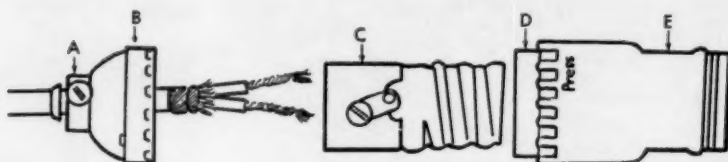

Figure 6. Connecting a cord to a lamp socket
1. Examine the lamp carefully to see how the cord is placed in the lamp. Refer to figure 6 to recognize the parts of a lamp socket. It is generally better not to remove the screw (figure 6 a) in the base of the socket that fastens the socket to the lamp base.
3. Pull the cord up through the cap (figure 6 b). Disconnect the old cord from the socket base (figure 6 c).
7. Slide the inner paper shell (figure 6 d) and the brass shell (figure 6 e) back over the porcelain or bakelite base, press the socket together, and twist gently until the notches click into place.